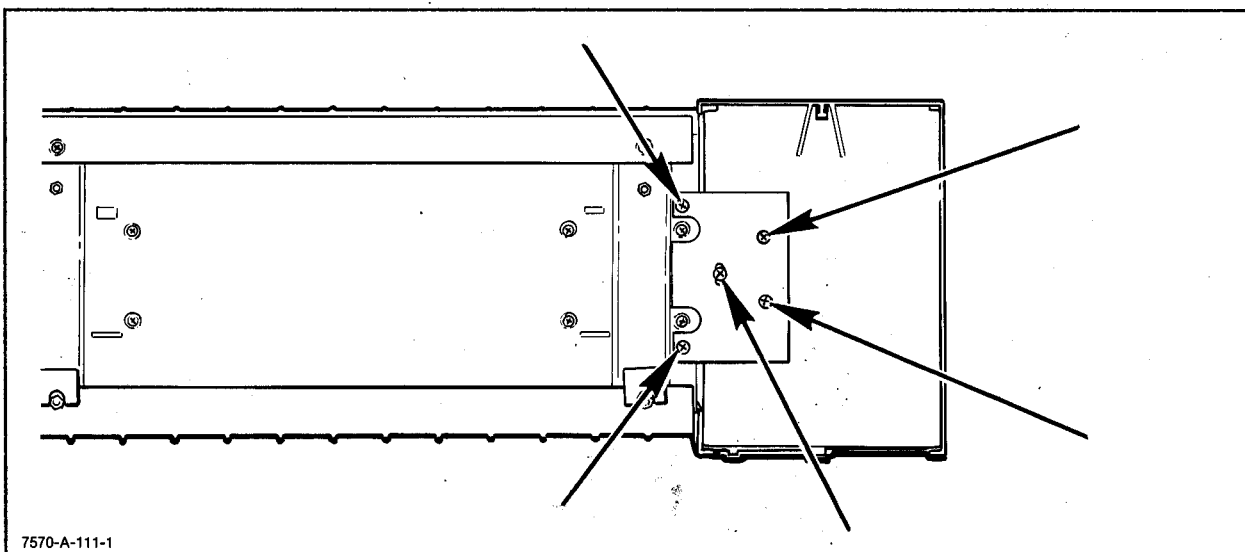

Figure 6-12. Right-Hand Shield Removal
- c. Remove the five screws securing the right-hand shield between the pan and the right-hand base. See Figure 6-12. Right-Hand Shield Removal.
- f. Replace the right-hand shield. See Figure 6-12.